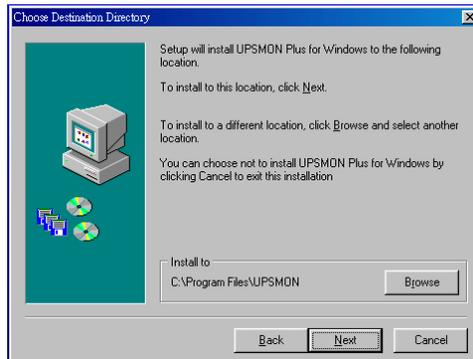

Fig 5.4
3. Select a location for installing program. Please read and follow instruction written in the window and click **Next**. (see Fig 5.4)